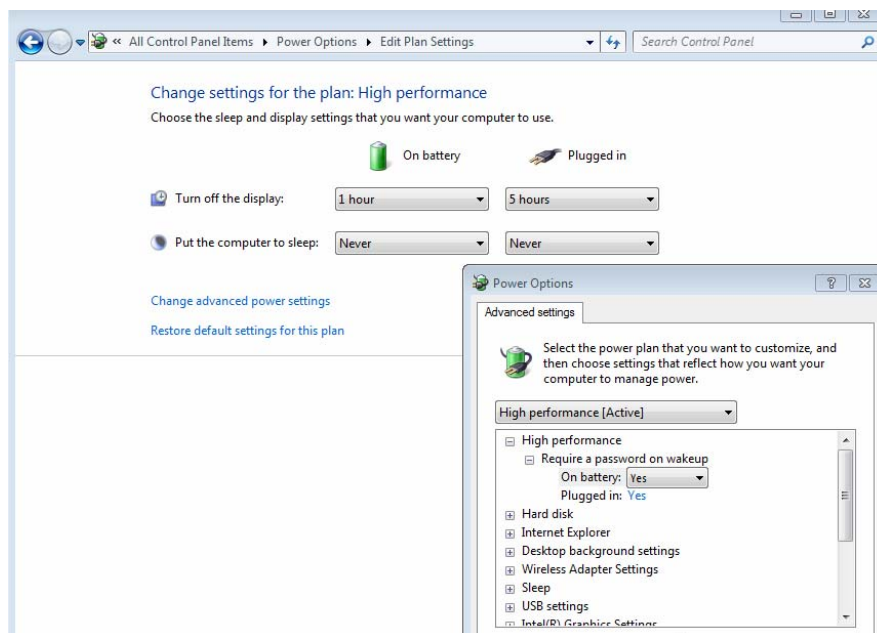

FIG. 56
3. On the Power Options/Edit Plan Settings screen, you will need to “Change settings for the plan: High performance. Choose the sleep and display setting you want your computer to use”. (FIG. 56).